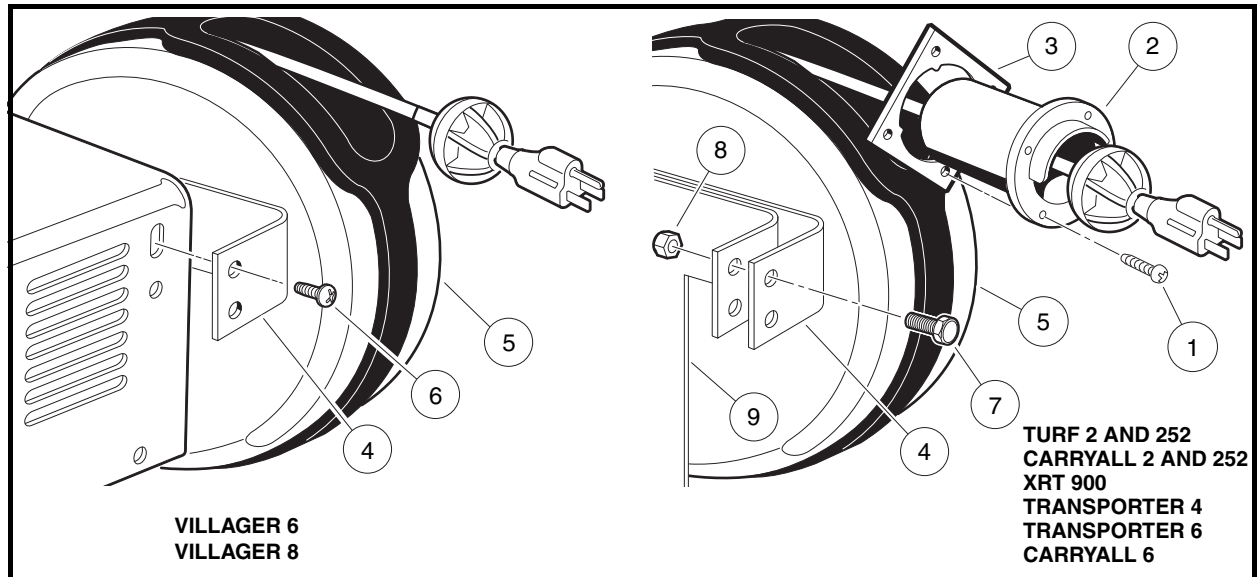

Figure 9-20 Retractable Cord Reel Mounting Details
4. **Carryall 2/252, Turf 2/252, XRT 900, Carryall 6 and Transporter 4 and 6:** Remove four screws (1) securing the cord reel housing (2), and its backing plate (3), to vehicle (**Figure 9-20, Page 9-29**).
5. Remove hardware securing U-shaped bracket (4) of retractable cord reel assembly (5).